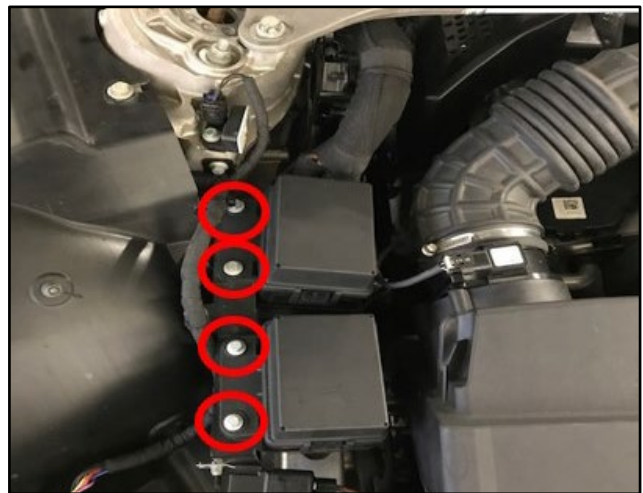

Figure 12
14. Torque the four bolts to 5Nm (refer to Figure 12).